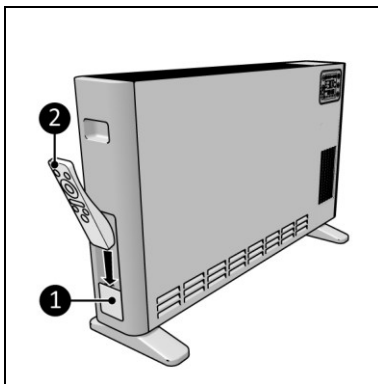

Figure 14
1. The remote control (Figure 14, pos. 2) can be placed in the remote control slot (Figure 14, pos. 1) on the side of the device.